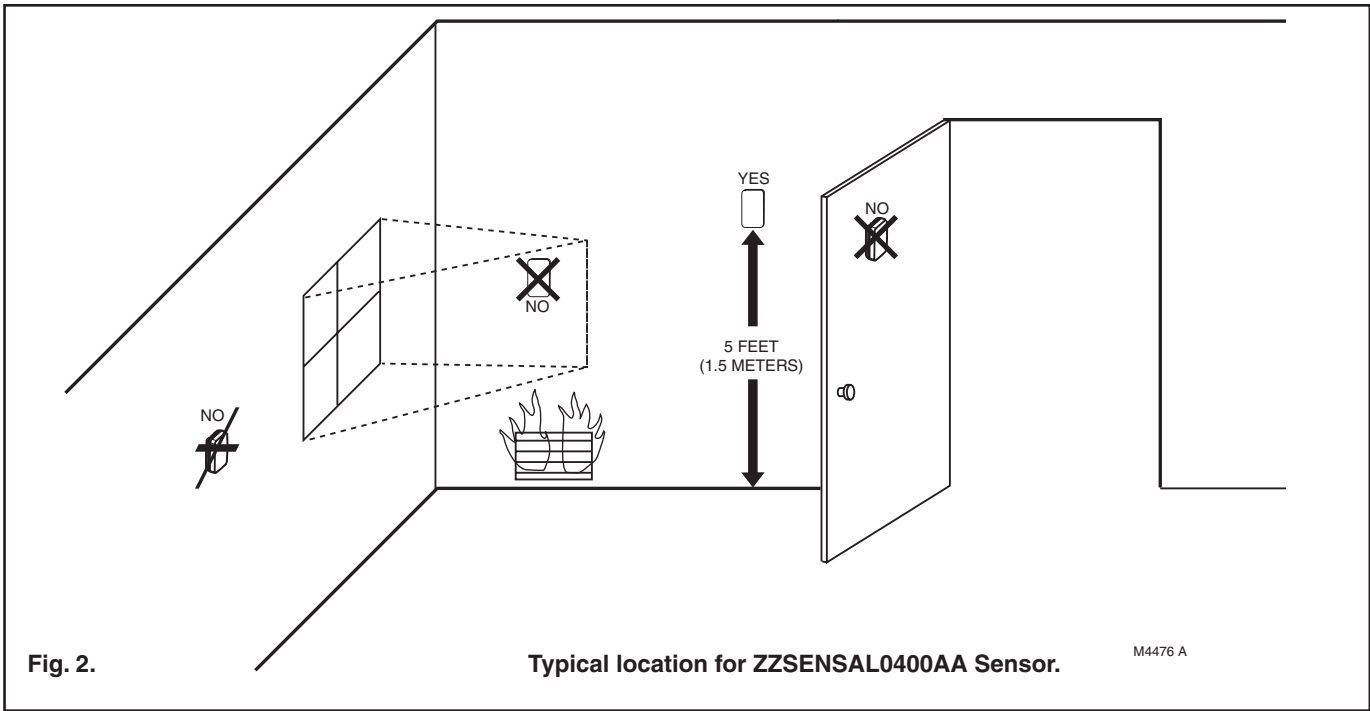

Fig. 2.
Location and Mounting (Fig. 2)
3. Make sure there is good air circulation at average temperature at the chosen location. Avoid the following locations because they can introduce errors in sensor measurements. See Fig. 2.